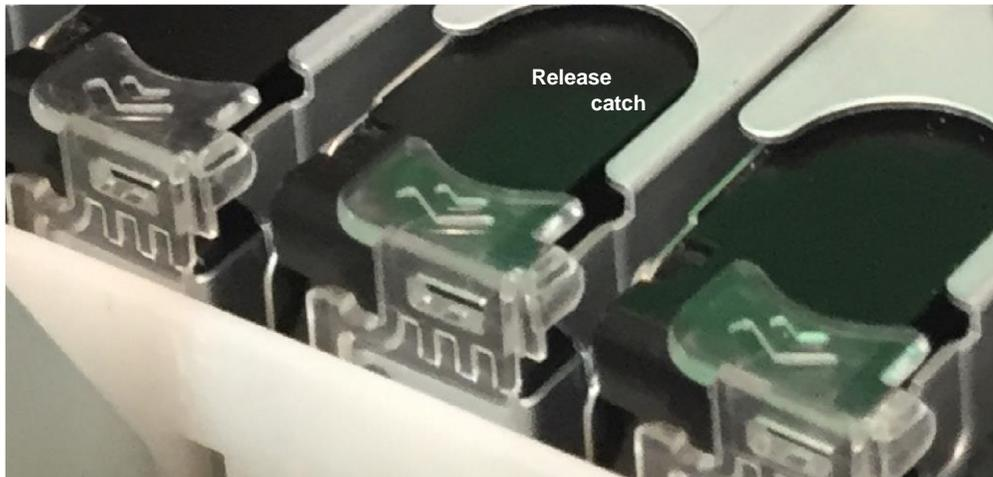

Figure 6.10 Drive release catch
4. Push the drive carrier release catch away from the drive, in the direction of the imprinted arrows on top of the release catch as shown in Figure 6.10. This releases the cam securing the drive to the baseboard.